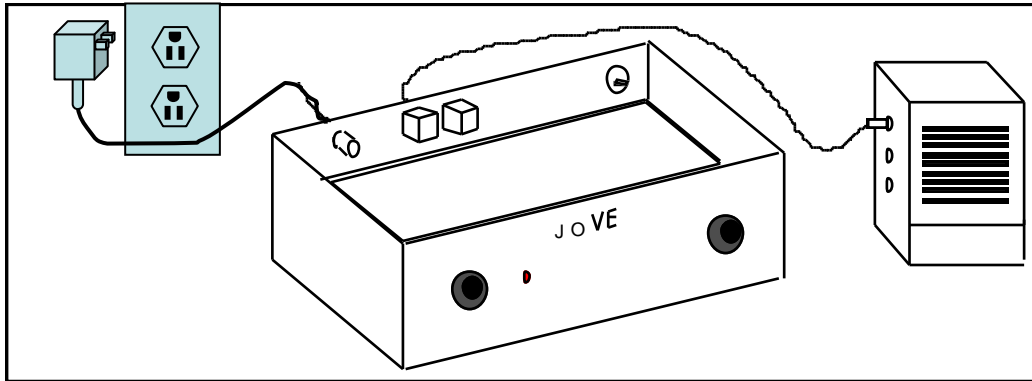

Figure 16. Test set-up, radio with the cover off connected to the AC Adapter and the amplified speaker
2. ☐ Before connecting power turn the JOVE receiver power switch OFF. Connect either headphones or an amplified speaker (Radio Shack 277-1008 or 40-218, or equivalent) to one of the audio output jacks on the receiver rear panel. These jacks accept 3.5 mm (1/8 inch) monaural or stereo plugs. Connect the JOVE receiver to the 12 volt power source as shown in Figure 16. First connect the power cord to the receiver and then plug the supply into the wall outlet. (It is not recommended to plug a live power plug into the receiver.)